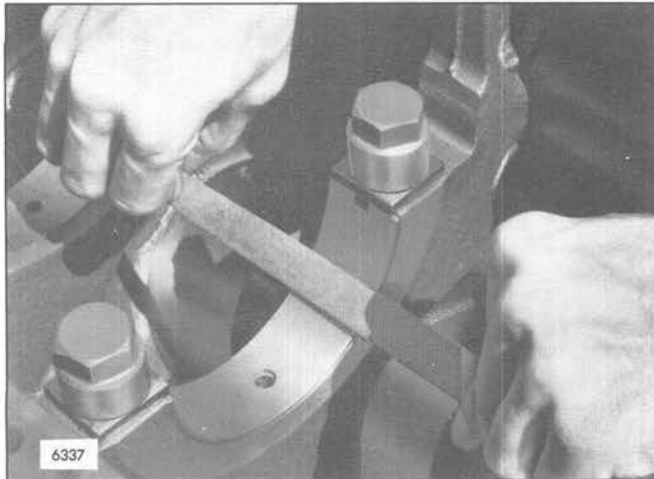

Fig. 10 – Filing Excess Rivet Material
20. File off the excess rivet material (Fig. 10).